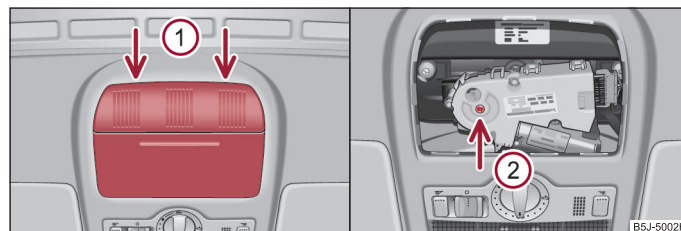

Fig. 35 Detail of the headliner: Points for positioning screwdriver / opening for positioning the key
- Position the flat blade of a screwdriver carefully against the rear edge of the cover for the electrical drive at the points of the arrows **①** ⇒ fig. 35 on the left.
- Insert an Allen key, Group 4, up to the stop into the opening at the point of the arrow **②** and close and/or open the sliding/tilting roof ⇒ fig. 35 on the right.